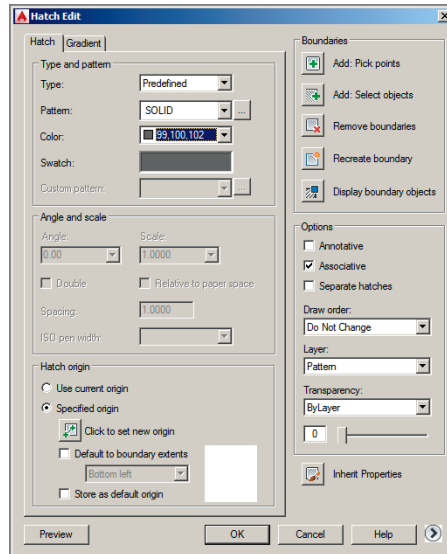

FIGURE 8.10 Hatch Edit dialog box
1. Type **HATCHEDIT** and press Enter. Select the solid hatch in the outer portion of the rotor. The Hatch Edit dialog box appears (see Figure 8.10).